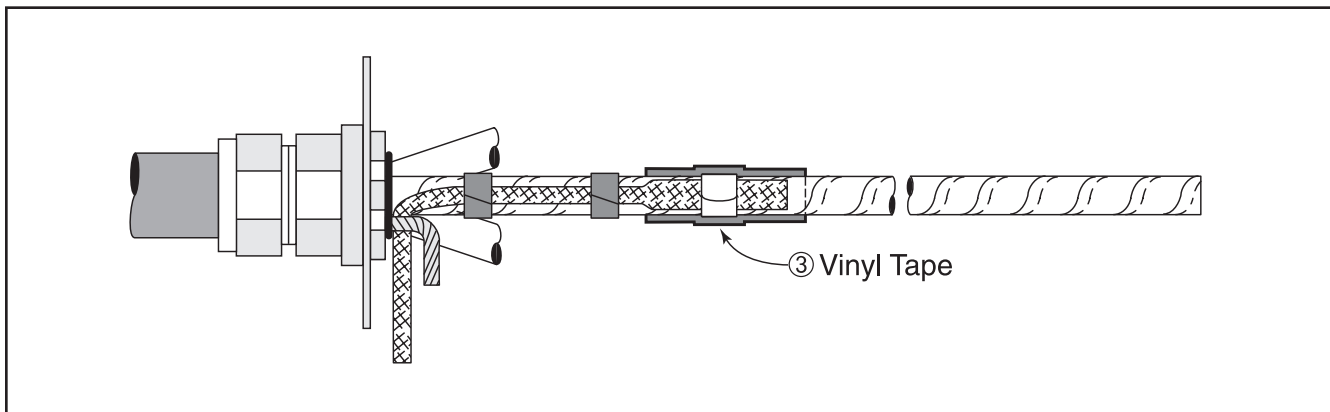

Figure 4
- 2.3 2.3 Apply two half-lapped layers vinyl tape over constant force springs and ground strap ends (③ Figure 4).